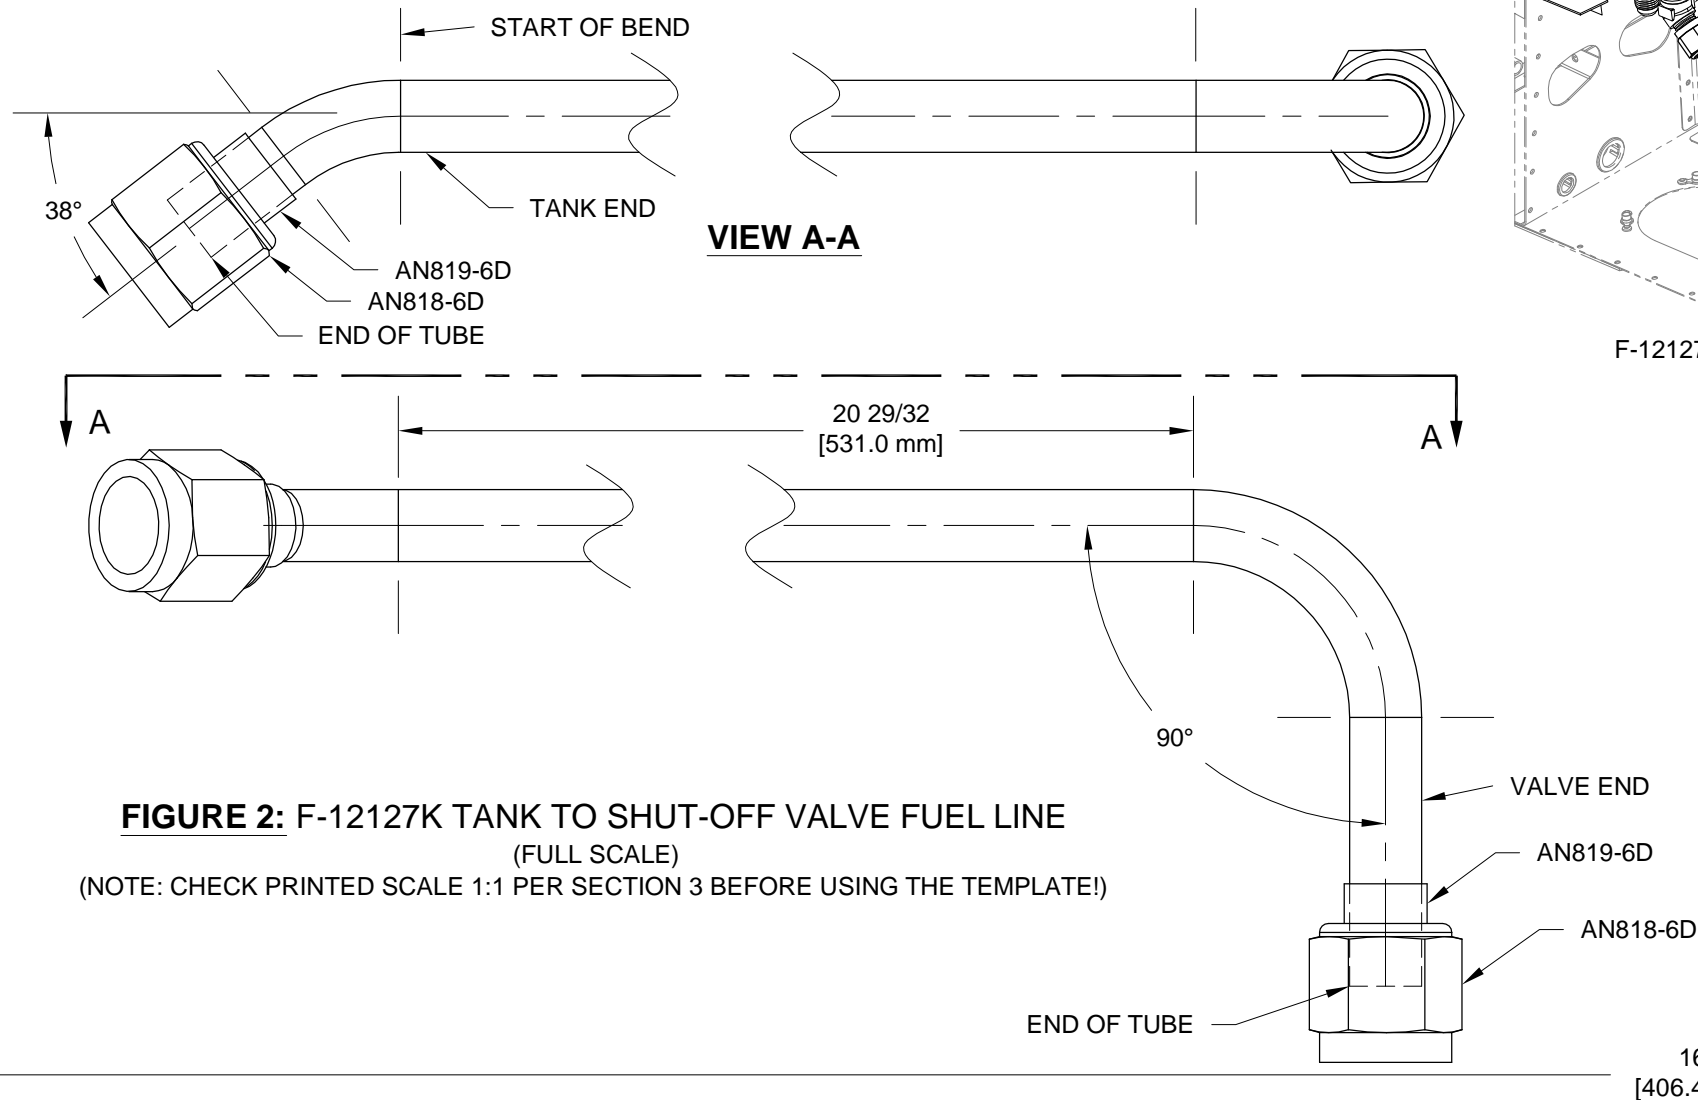

FIGURE 2: F-12127K TANK TO SHUT-OFF VALVE FUEL LINE
Step 4: Make the 90° bend going to the valve by referencing Figure 2 and View A-A. Place the nut and sleeve over the valve end of the tube (check that the other nut and sleeve have not fallen off the tube). Flare the valve end of the tube and slide the sleeve against the flare.